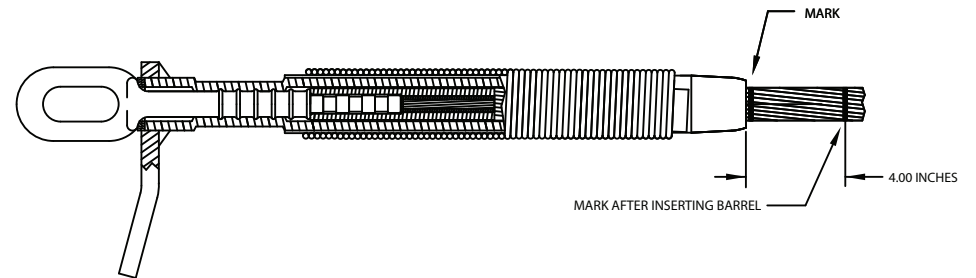

Fig. 5
5. Slide the conductor/core grip into the barrel of the Dead End until it bottoms against the steel forging. The "mark" should now be at the end of the barrel. See illustration shown in Fig. 5. The end of the "Core Grip" will now be over the "smaller" corrugations of the Steel Eye. See illustration shown in Fig. 5. Add "Mark" 4 inches from end of Barrel. (To verify no "pull out," see Step 6.)